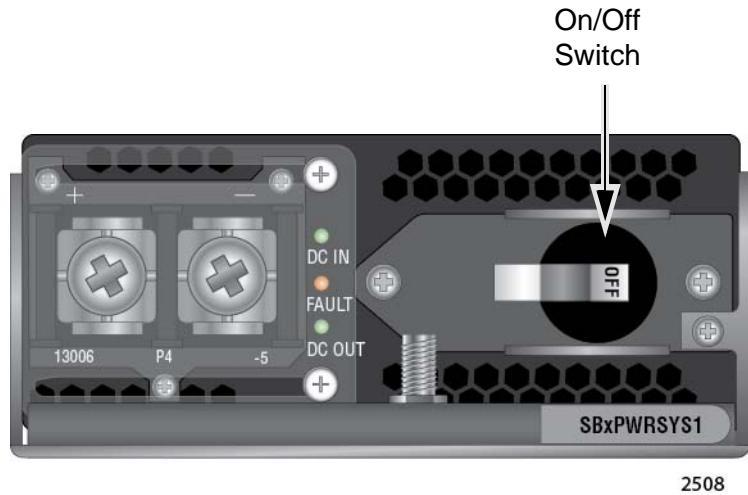

Figure 55. On/Off Switch on the AT-SBxPWRSYS1 DC Power Supply
4. Verify that the On/Off switch on the power supply is in the Off position. Refer to Figure 55 on page 115.